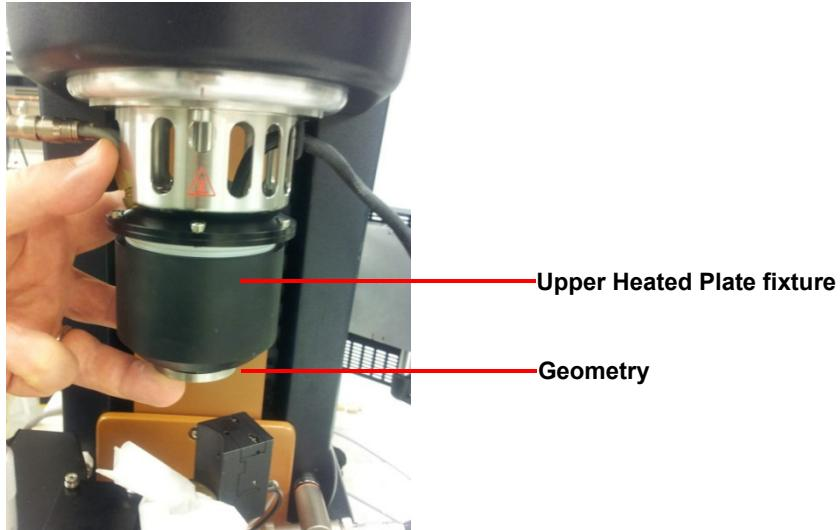

Figure 37 Hold the Upper Heated Plate fixture together with the geometry while tightening the captive screws.
- 2 Insert the draw rod to attach the upper geometry first. Then insert the upper plate/cone into the heat spreader and attach the Upper Heated Plate fixture with the geometry to the mounting ring on the underside of the instrument head, using the three captive screws provided. Hold the heater and the geometry as shown in Figure 37. Secure the geometry to the instrument shaft by rotating the draw rod. Note that the power cable should project to the right of the instrument when viewed from the front, with the ports for the coolant and inert gas to the left.